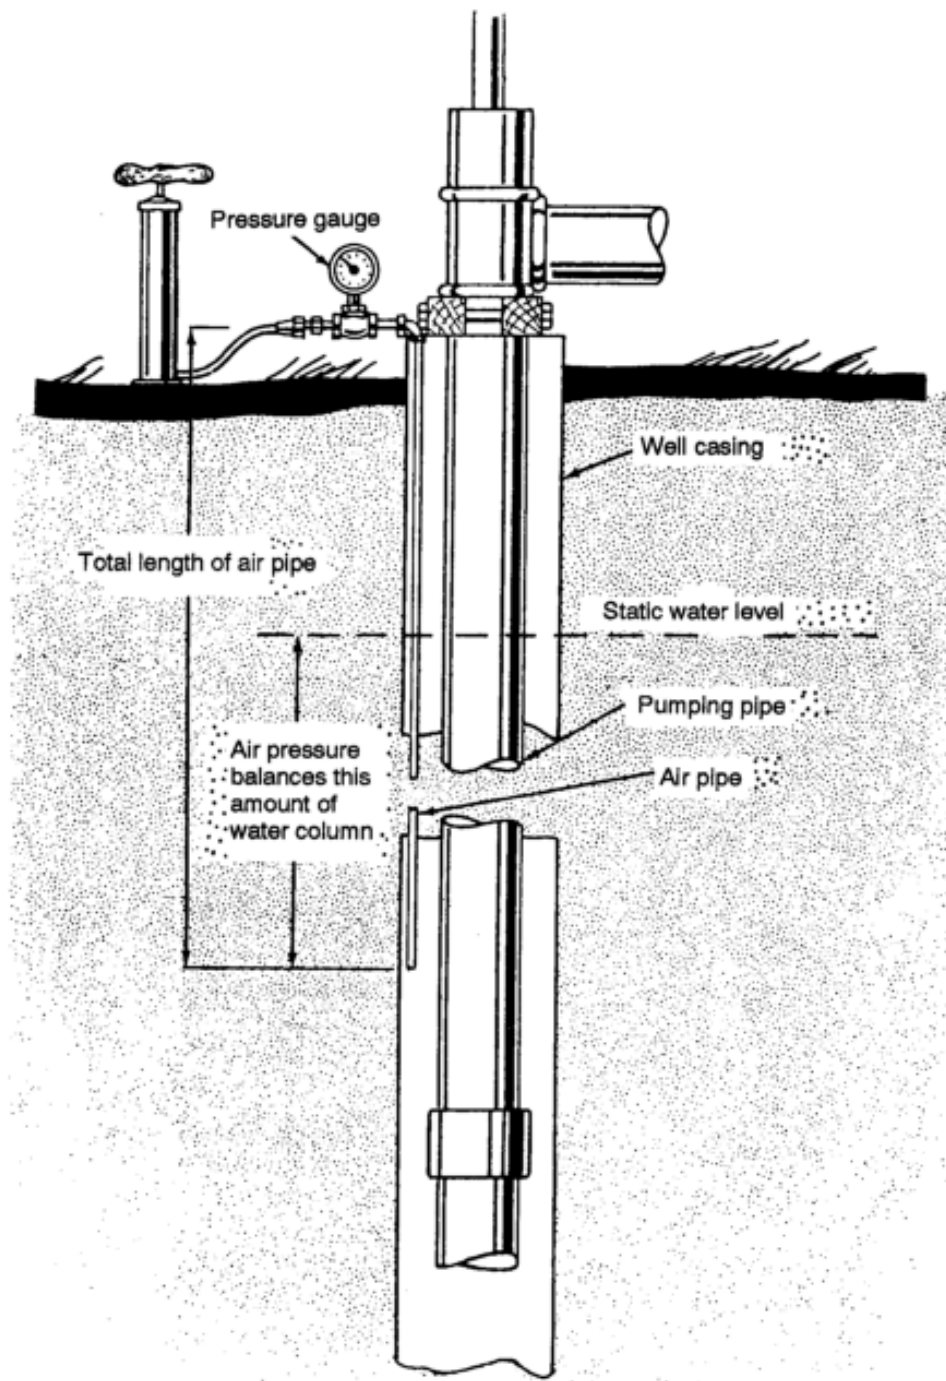

Figure 8-4. Air-line measurement method
c. *Air-Line Method.* You can measure the water level with an air line to follow drawdown and confirm a stable head during a test (Figure 8-4). The air line is usually 1/8- or 1/4-inch copper tubing or galvanized pipe that is long enough to extend below the lowest water level you are measuring. Fasten the air line to the pump bowls or cylinder. Install the airline with the pump. The pipe must be airtight; makeup all joints carefully. Measure the vertical length of the airline from the pressure gauge to the bottom of the line at the time of installation.